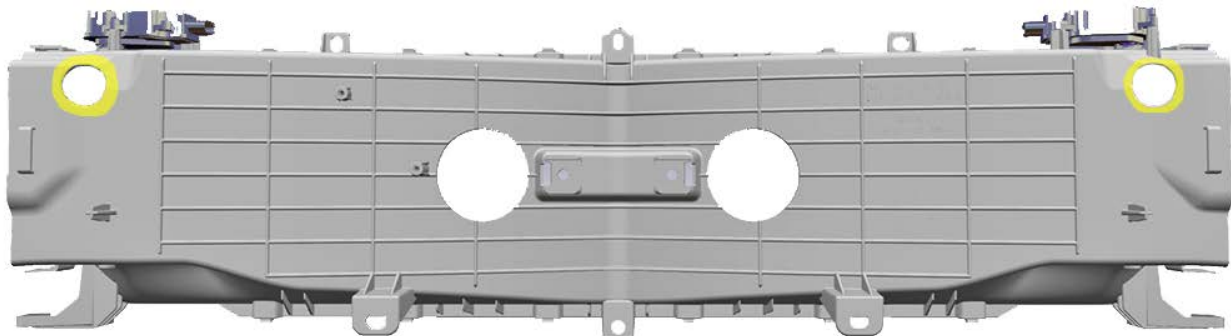

Figure 8 (Outer circular cutouts highlighted)
8. If the active louver is revision K or newer, remove the backing material from the small gaskets and adhere them to the rear of the active louver around the 2 outer circular cutouts (Figure 8). If the louver is revision H-J, discard the small gaskets.